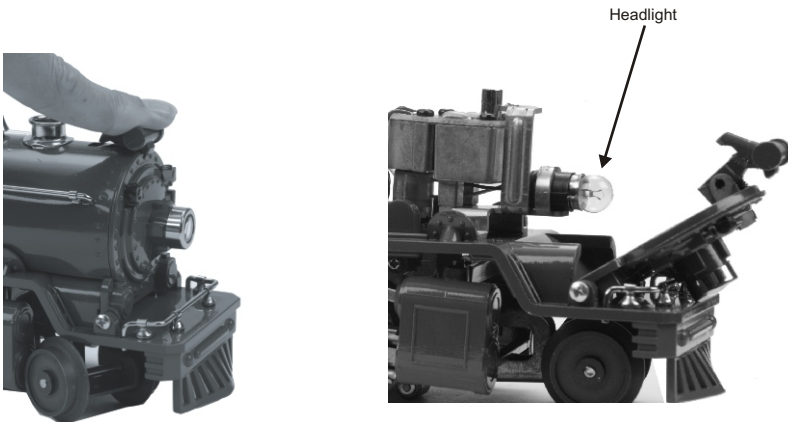

Figure 8
1. To replace the headlight in this model you will need to follow the disassembly instructions for greasing the engine on pg. 13. Once the boiler has been removed you can access the headlight (see figure 8).